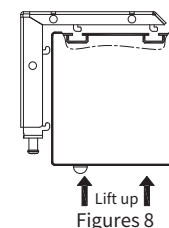

Figures 6
3. Before installation, loosen the crosshead screw counterclockwise to release the vertical locking hook and slide it downward toward the edge of the elongated slot. Then, slide the horizontal locking block outward to the outer edge. (See Figures 6–7)